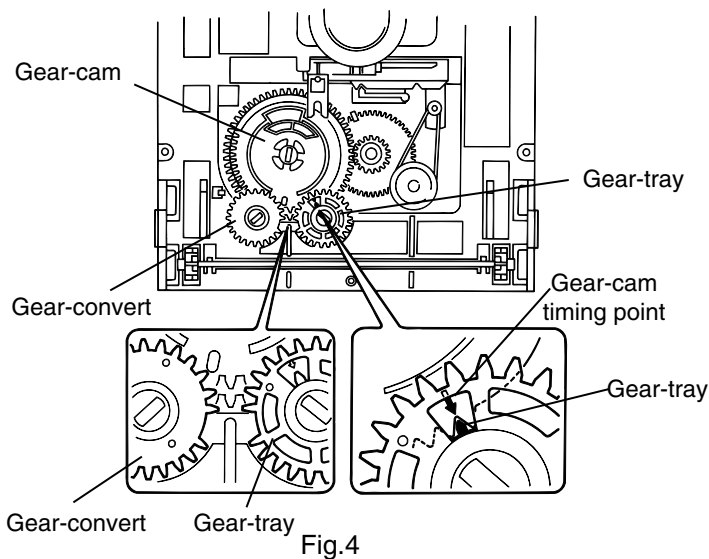

Fig.4
■Reinstall the CD tray (See Fig.4 and 5)
1. Align the gear-cam with the gear-tray as shown fig.4, then mount the CD tray.
(Fig. 4)